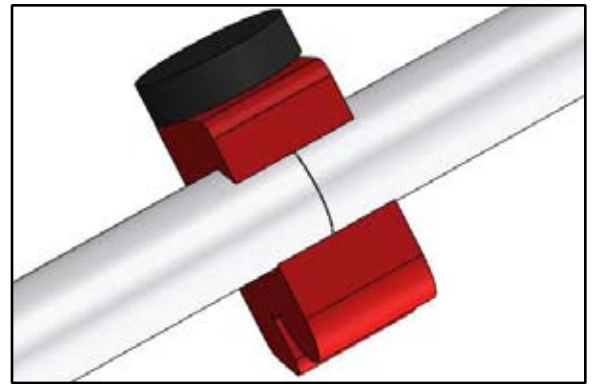

Figure E1
- 2) Adjust the wheel of a tubing cutter so the tube can fit into the cutter. With the tube fitted into the curved side, line up the mark on the tube to the small wheel blade in the cutter (Figure E1). Adjust the wheel so the cutter is snug – but not too tight – on the tube.